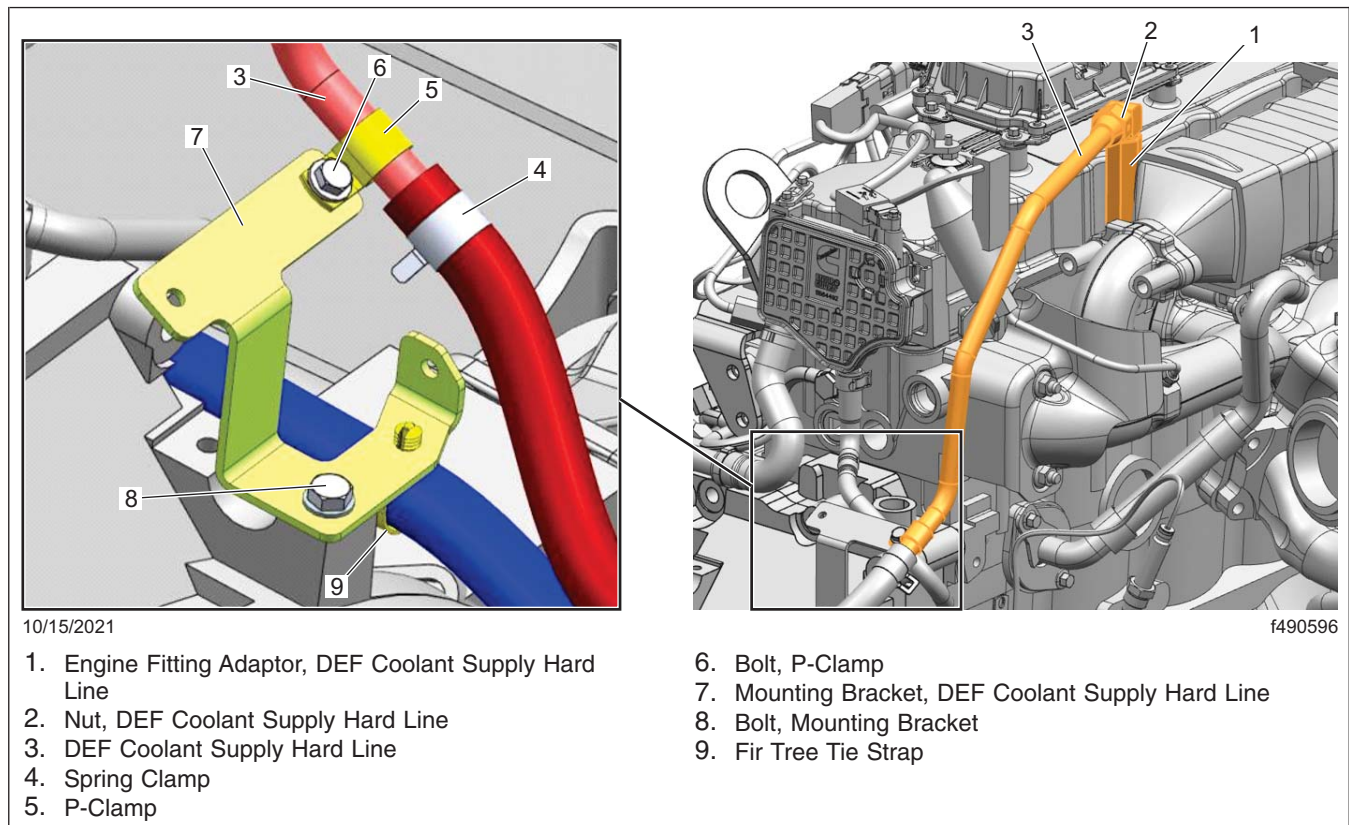

Fig. 2, Mounting, Existing DEF Coolant Supply Hard Line
4. Remove the hardware that attaches the P-Clamp to the DEF coolant supply hard line mounting bracket. See **Fig. 2**, item 6.
5. Remove the P-Clamp from the DEF coolant supply hard line. See **Fig. 2**, item 5.
6. Using a clamp removal tool, loosen the spring clamp that secures the hard line to the soft line shown in **Fig. 2**, item 4, then disconnect the hard line from the soft line.
7. Disconnect the hard line from the engine fitting adaptor. See **Fig. 2**.
8. Remove the hard line fitting adaptor from the engine. See **Fig. 2**, item 1.
10. Remove the fir tree strap that secures the coolant return line to the mounting bracket. See **Fig. 2**, item 9.
11. Remove the bolt and washer that attaches the hard line mounting bracket to the flywheel housing. See **Fig. 2**, items 8 and 7.